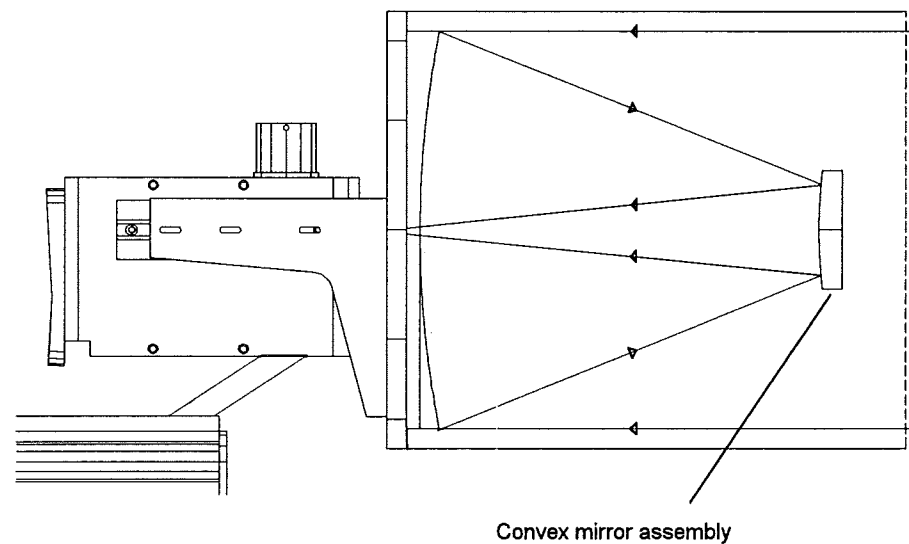

Figure 18. Cross-section of telescope
- Rotate the convex mirror assembly inside the telescope to obtain a sharp definition of the image. See Figure 18.